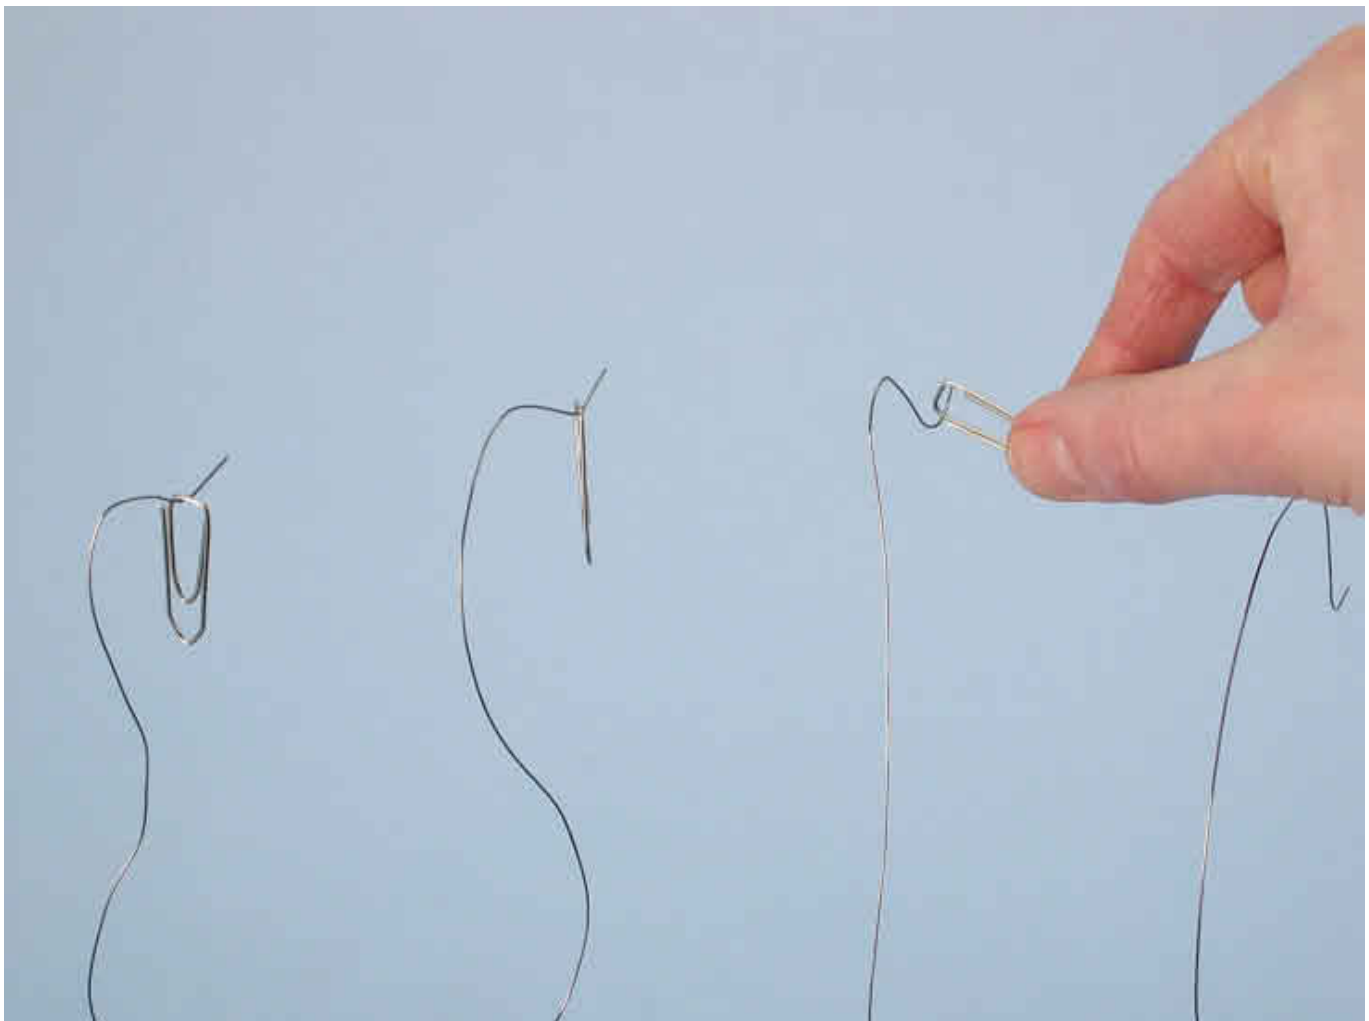

Fig. 2
- Test their load-bearing capacity by hanging one paper clip after another to them. Which model is the most stable one (Fig. 2).